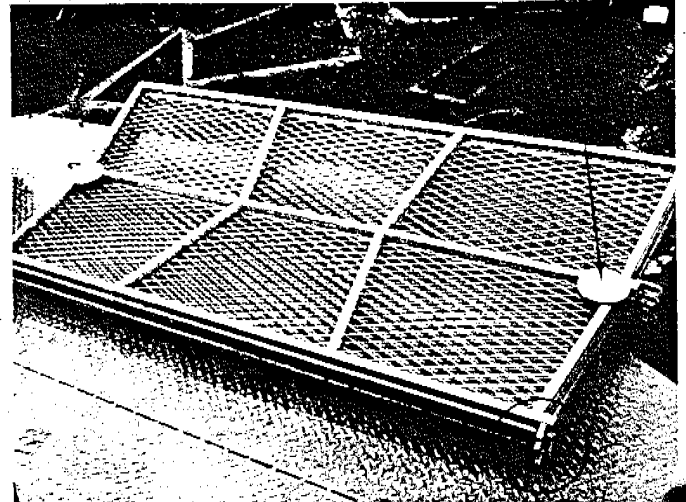

Fig. 47
- b. Drop the mounting plate bolts down through the holes in the fence sections and in the platforms. Secure in place under the platforms with locks and washers. (Fig. 47)